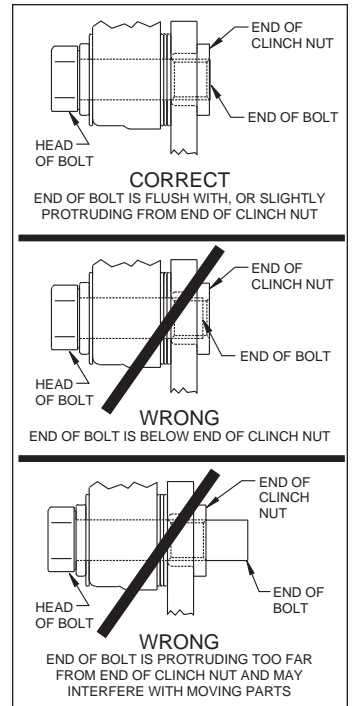

Figure 4. Clinch Nut Engagement Diagram
CAUTION: All mounting bolts must fully engage insert nuts, Figure 4. Be sure to check that all bolts are either flush or protruding through flanged side of insert nut after shimming. Rear hole refers to the part of the spindle that would be facing the back of the vehicle, front is facing the front of the vehicle.
- Adjust by adding or subtracting shims (2) between the bracket and the spindle. Always use the same amount of shims on each of the two mounting bolts.
- NOTE:** The end of each bolt must be flush with or slightly protruding from the head of the clinch nut, as shown in Figure 4. If necessary place spare shims (2) between washer (19) and caliper mounting ear to achieve the proper clinch nut engagement. Once the caliper alignment and clinch nut engagement is correct, remove the ProSpindle and steering arm bolts one at a time, apply red *Loctite*[®] 271 to the threads, and torque to 55 ft-lb. Remove the caliper mount bolts one at a time, apply red *Loctite*[®] 271 to the threads, and torque to 40 ft-lb.
- Install the disc brake pads (21) into the caliper (18), with the friction material facing the rotor (8), and secure inplace using cotter pin (22), Photo 10.